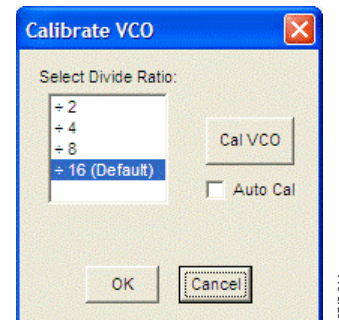

Figure 17. Calibrate VCO Window
14. Click the blinking yellow **Cal VCO** button to load the VCO calibration window. The default VCO divide ratio (16) works for all applications. Click the **Cal VCO** button in the **Calibrate VCO** window to begin calibration (see Figure 17). The PLL should now be locked and the **LD** (lock detect) LED on the left side of the board should be on.
The **Calibrate VCO** window shown in Figure 17 is accessed by clicking the **Cal VCO** button on the main window.